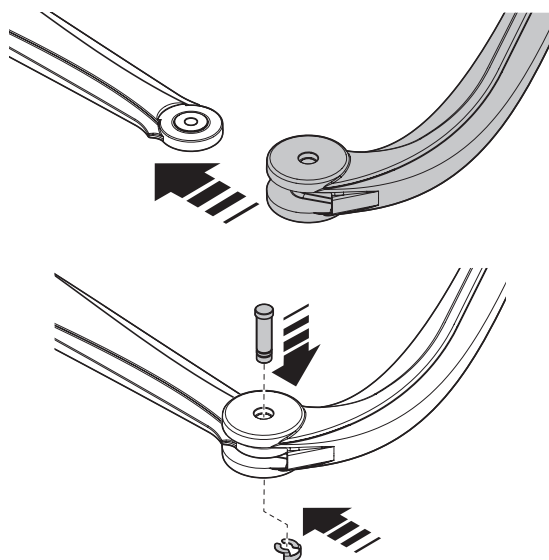

Fig. 9
02. Fix the two arms to each other using the pin and the seger Fig. 9;